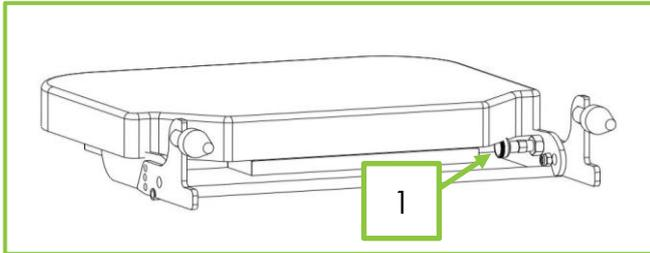

Figure 22
1. Locate the footplate angle adjustment plunger underneath the footplate (Fig 22, Item 1).